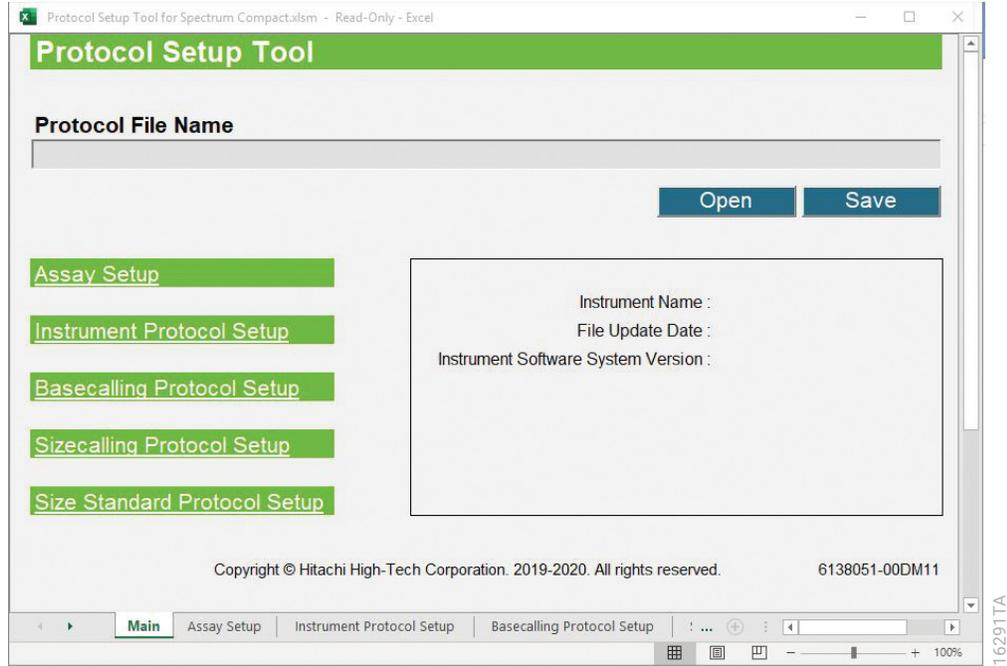

Figure 190. Main worksheet of the Protocol Setup Tool for Spectrum Compact.
1. Open the 'Protocol Setup Tool for Spectrum Compact.xlsm' Excel® macro-enabled workbook. The 'Main' worksheet will be displayed (Figure 190).
- Information on individual protocols or assays can be accessed by either selecting **Setup** on the ‘Main’ worksheet or selecting the tab at the bottom for the appropriate setup worksheet (Figure 190).
- Open the ‘Instrument Protocol Setup’ worksheet by either selecting **Setup** on the Main worksheet or selecting the tab at the bottom for the appropriate setup worksheet (Figure 190).
7. Select the 'Main' worksheet tab followed by **Save** (Figure 190). A 'Save As' browse window appears. Browse to the location (e.g., a USB drive) where you wish to save the new protocol .xml file and save to a folder named Protocols within that location (if folder does not already exist, create a new folder with that name).
1. Open the 'Basecalling Protocol Setup' worksheet by either selecting **Setup** on the Main worksheet or selecting the tab at the bottom for the appropriate setup worksheet (Figure 190).